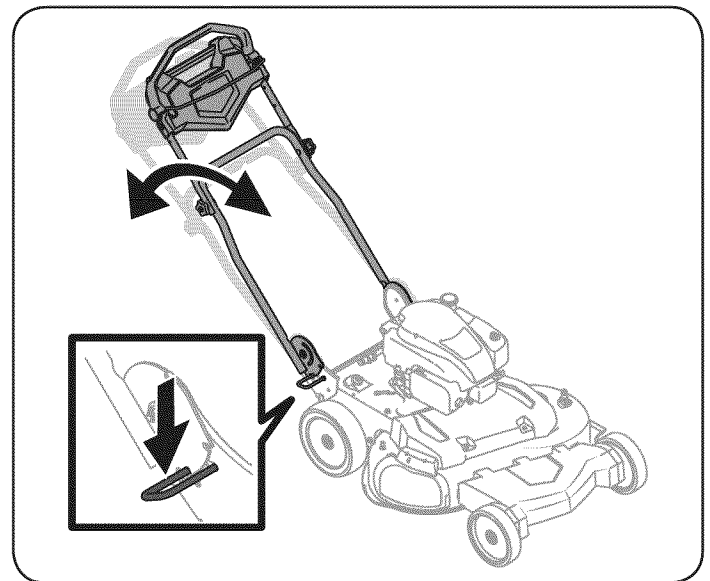

Figure 3
3. The handle height can be adjusted to one of two positions. Push down on the handle adjustment lever with your foot and place the handle into the most comfortable operating position. See Figure 3.